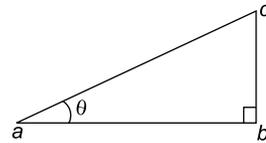

Figure 1.4
From Figure 1.4,  $\sin \theta = \frac{bc}{ac}$      $\cos \theta = \frac{ab}{ac}$
**Problem 4.** In Figure 1.4, if  $ab = 2$  and  $ac = 3$ , determine the angle  $\theta$ .
**Problem 5.** In Figure 1.4, if  $bc = 1.5$  and  $ac = 2.2$ , determine the angle  $\theta$ .
**Problem 6.** In Figure 1.4, if  $bc = 8$  and  $ab = 1.3$ , determine the angle  $\theta$ .